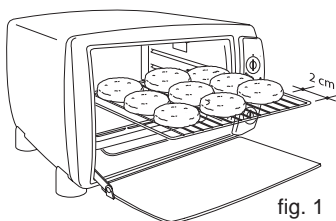
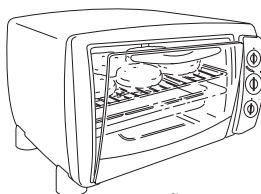

fig. 1
fig. 2
Place the food being grilled directly on the wire rack and the dripping pan **(N)** in the centre guide (2) as shown in Figure 1. Leave the door ajar as shown in Figure 2. Pour a glass of water into the dripping pan **(N)** to make cleaning easier and prevent smoke being produced by the burning fat.
**Important: for best results, place the food on the wire rack (O), leaving an empty space of around 2cm near the door (see Figure 1).**